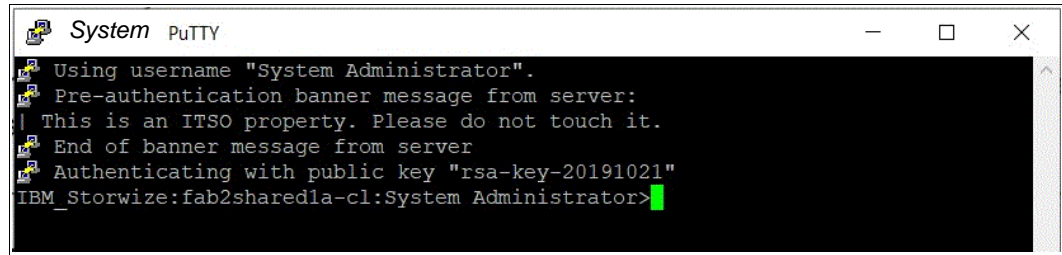

Figure C-15 PuTTY login
12. As shown in Figure C-15, PuTTY now connects to the system automatically by using the user ID that was specified earlier, without prompting for password.